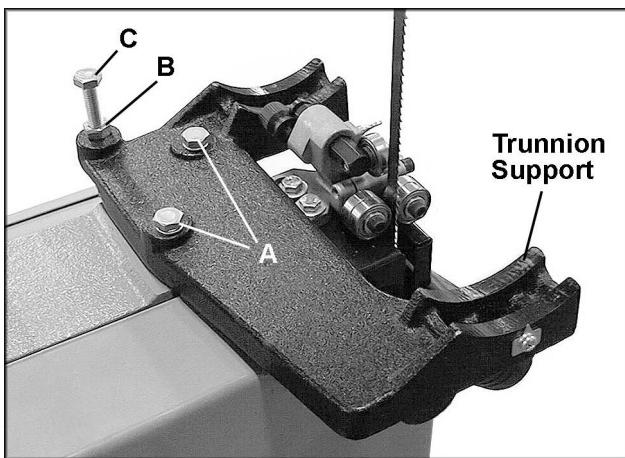

Fig. 6
11. Attach trunnion support to saw body with two M8 x 30 hex cap screws and two M8 lock washers (A, Fig. 6).